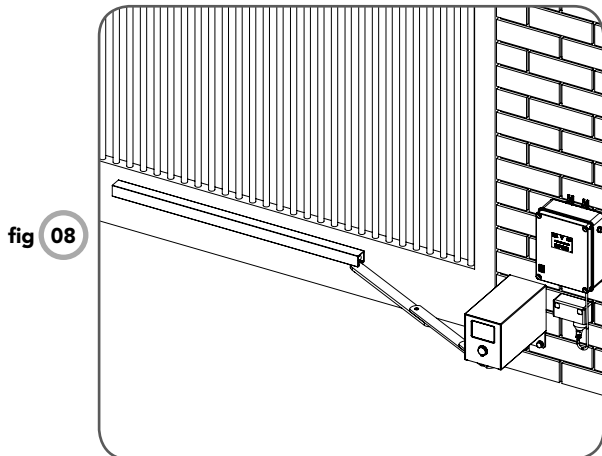

fig 08
4. Check that the Drive Unit is disengaged and the gate is closed. Slide the Guide Track over the idler. Locate Track on the gate and check travel of the Arm. The idler should always be inside the Guide Track in the closed and open positions (**Fig. 08**).